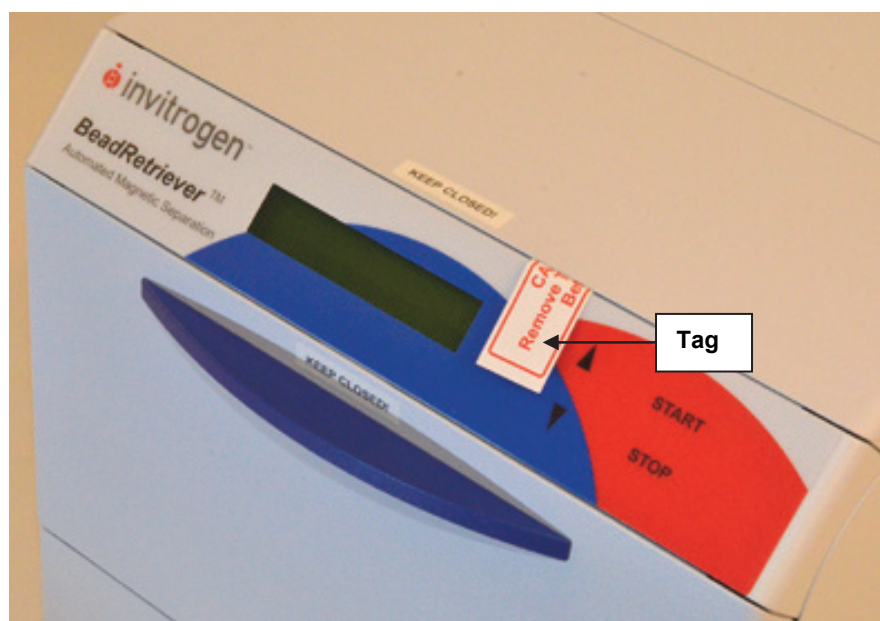
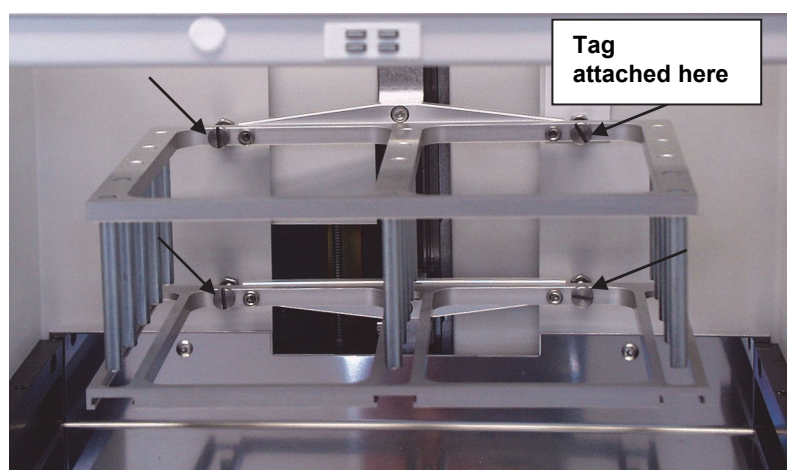

Fig. 5.1 BeadRetriever transport lock tag present before release of the locks
Fig. 5.2 Location of the transport lock screws and warning tag
Note: THERE ARE FOUR (4) TRANSPORT LOCKS (SCREWS) PRESENT (*Fig. 5.2*). A white tag with the red text '**CAUTION! Remove Transport Lock Before Use**' is fastened to the instrument to
attract the user's attention) (*Fig. 5.1*). The tag in *Fig. 5.1* and the black arrows in *Fig. 5.2* indicate where the transport locks are situated. Remove the tag and release the transport locks. Ensure that the transport locks have been released before you put the instrument into operation.
1. To remove the transport locks, unscrew the four (4) screws (*Fig. 5.2*) with the 3 mm flat-head screwdriver supplied. Make sure that the screws are fully unscrewed in the opposite direction.
2. Then remove the transport lock warning tag (*Fig. 5.1*).